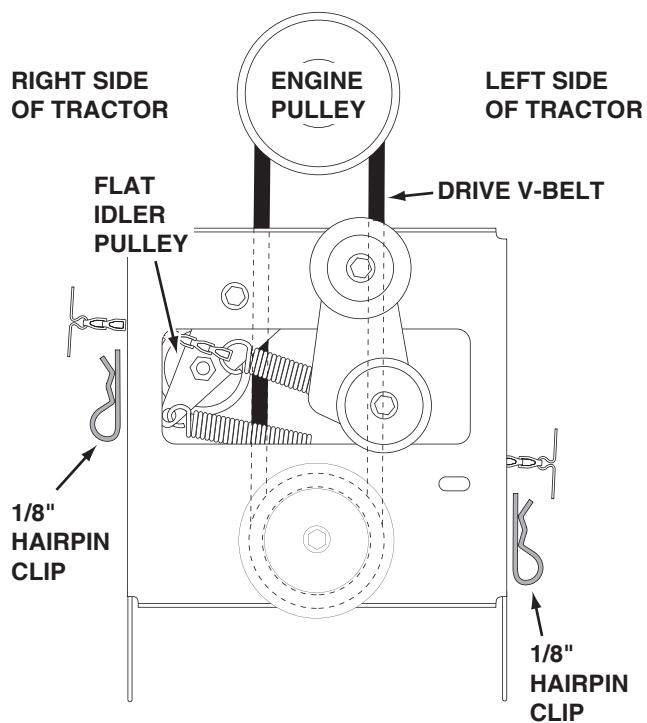

FIGURE 21
- Remove the two **outside** 1/8" hairpin clips which are assembled to the L.H. and R.H. tension adjusting chains outside of the clutch idler assembly frame. (The clips will be reinstalled after both belts have been assembled.) **Do not remove** the 3/32" hairpin clips assembled to the chains on the **inside** of the assembly frame. See figure 21.
- Assemble the drive belt onto the tractor's engine pulley and then onto the upper rear pulley on the clutch/idler assembly. Keep the flat idler pulley on the outside of the belt. See figure 21.